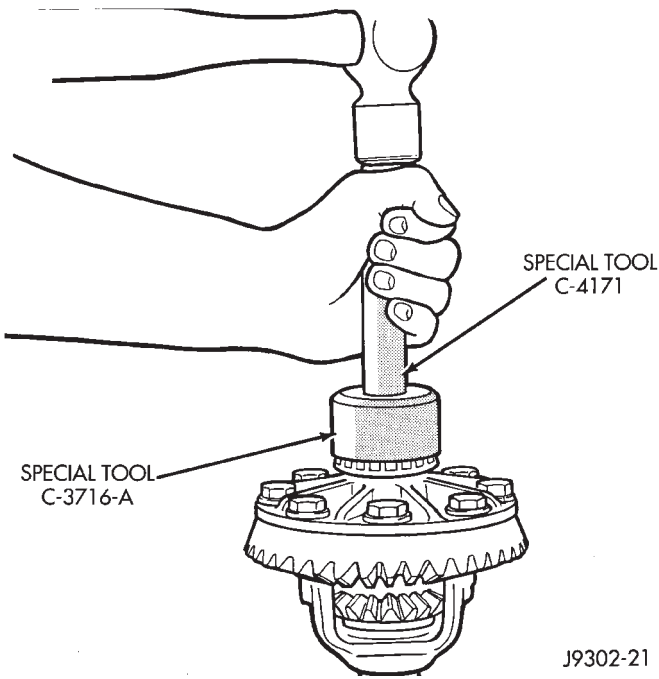

Fig. 59 Differential Bearing Installation
(7) Remove the master bearing tools from the differential case hubs.
(8) Position the backlash shims (with determined thickness) on case hub (ring gear side). Install bearing on the hub with Bearing Installer C-3716-A and Driver Handle C-4171 (Fig. 59).
(9) Position the remaining zero end-play shims on hub at opposite side of case. Include an additional
(10) Install bearings on hubs with Installer C-3716-A and Handle C-4171 (Fig. 59).
(11) Match each bearing cup with bearing (original). Install the cups on the bearings.